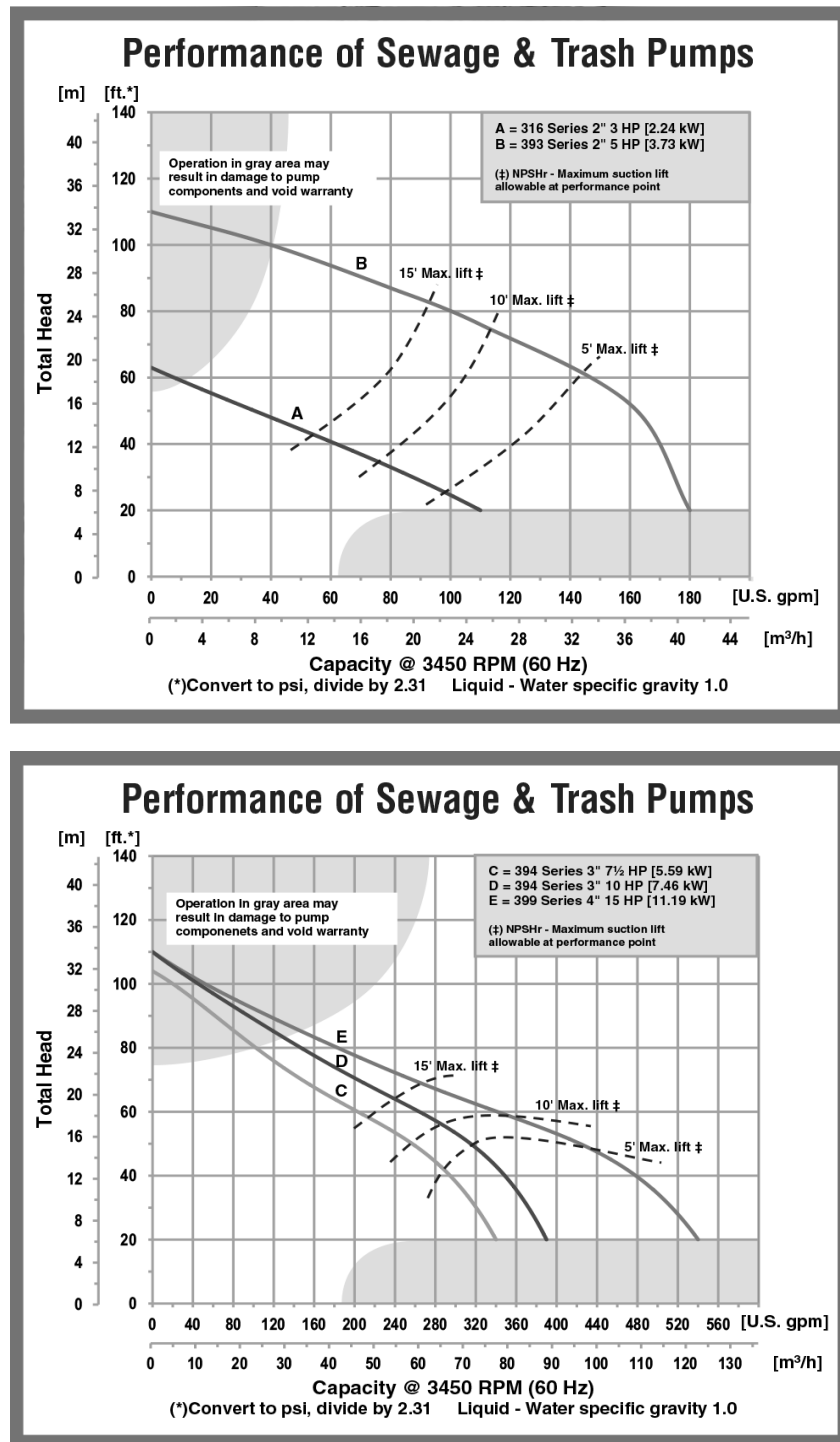

Figure 3 - Performance Curve
**Pumps must be operated in specific ranges as noted on respective curves on page 3 (Figure 3). Failure to adhere to curve will result in damage and cavitation to pump thus voiding warranty.**